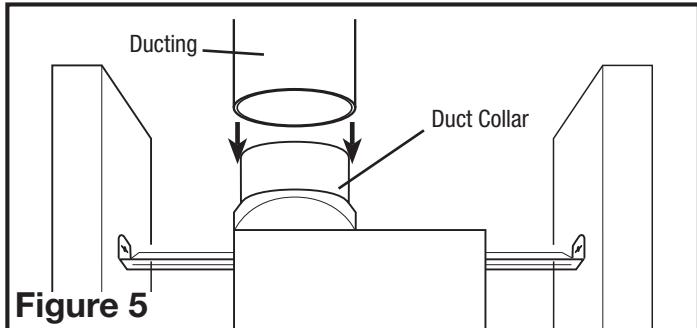

Figure 5
1. Connect the ducting to the fan's duct collar (**Figure 5**). Secure in place using tape or screw clamp. Always duct the fan to the outside through a wall or roof cap. It is recommended that low restriction termination fittings be used.